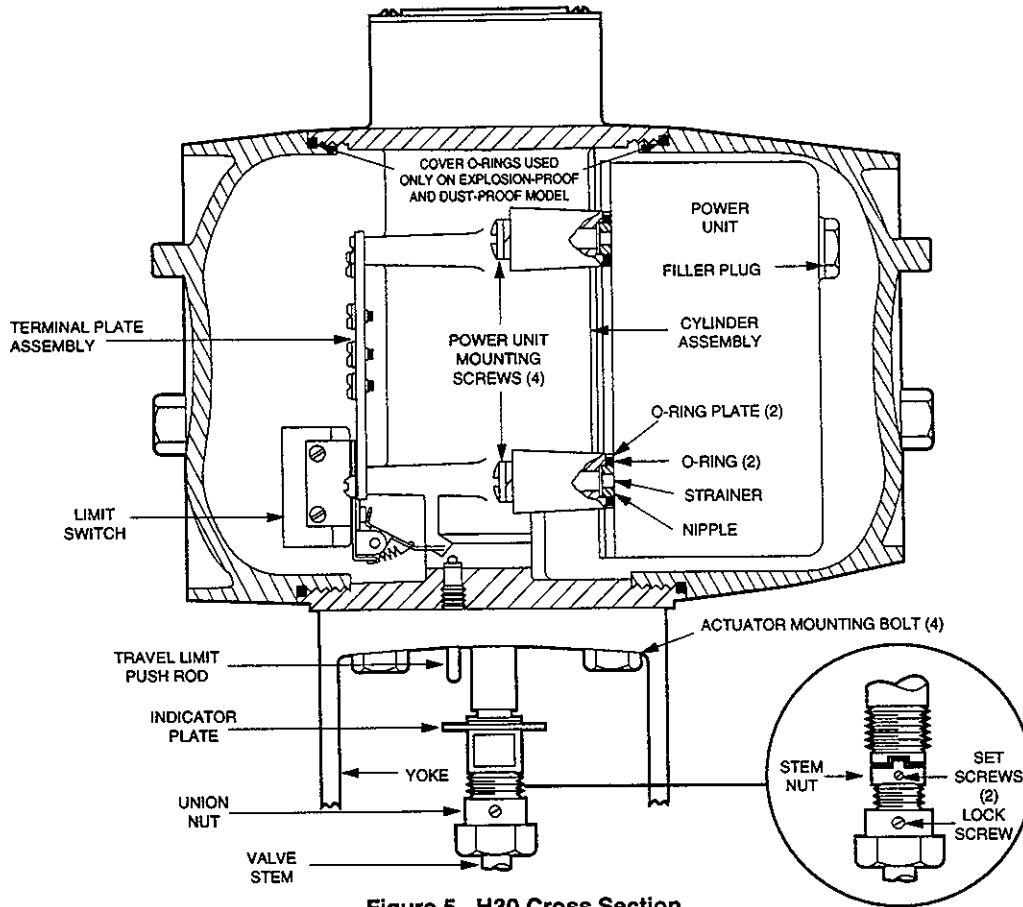

Figure 5. H30 Cross Section
1. Loosen lock screw, and unscrew union nut to detach valve stem from actuator shaft (see Figure 5, Detail).
1. Unscrew filter plug from oil port at top of unit (Figure 5).